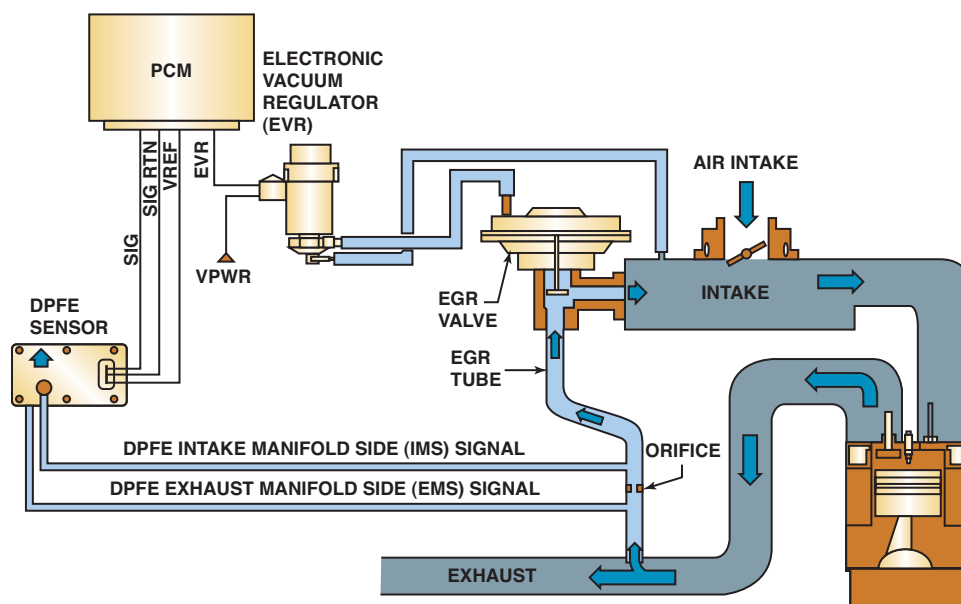

FIGURE 26-9 A typical Ford DPFE sensor and related components.
- Most Fords use an EGR monitor test sensor called a **delta pressure feedback EGR (DPFE) sensor**. This sensor measures the pressure differential between two sides of a metered orifice positioned just below the EGR valve's exhaust side. Pressure between the orifice and the EGR valve decreases when the EGR opens because it becomes exposed to the lower pressure in the intake. The DPFE sensor recognizes this pressure drop, compares it to the relatively higher pressure on the exhaust side of the orifice, and signals the value of the pressure difference to the PCM. ● **SEE FIGURE 26-9.**